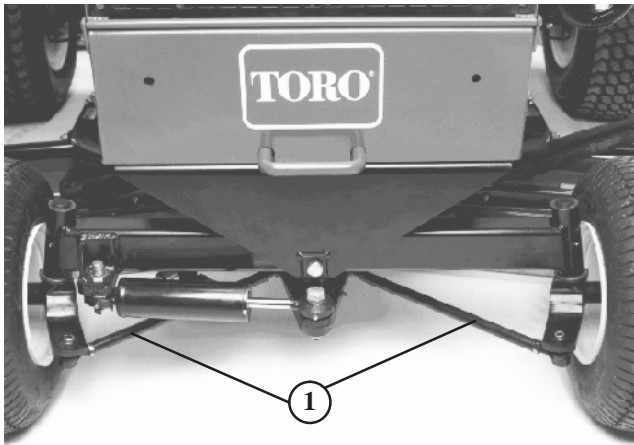

Figure 69
2. Loosen the jam nuts on both tie rods (Fig. 69). Adjust both tie rods equally until center-to-center distance at front of rear wheels is 0–1/8 in. (0–3 mm) less than at the rear of the wheels.